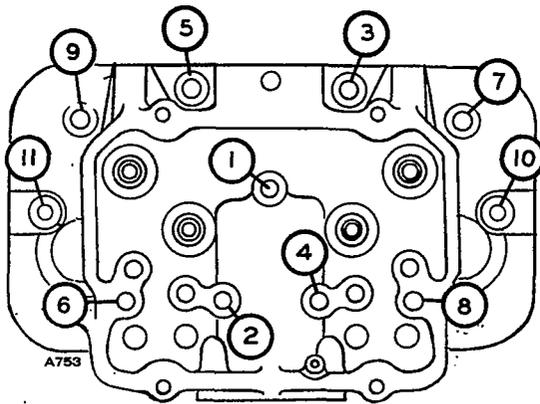

FIGURE 71. CYLINDER HEAD BOLT TORQUE SEQUENCE
- Tighten the head bolts to 28 to 30 lbs. ft. following the sequence in Figure 71.
- Tighten cylinder head capscrews, following sequence in Figure 71.